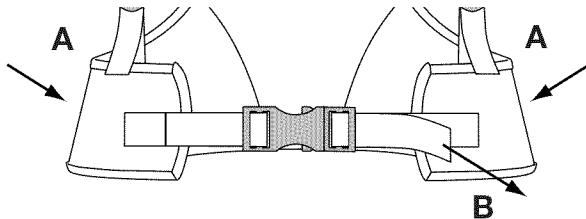
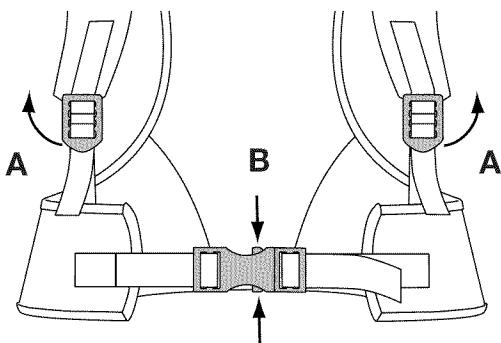

Fig. 18
Fig. 19
NOTE: Make sure the weight of the unit is supported on the hips by the waist support (Fig. 18, A).
3. If weight is not on hips, loosen the shoulder supports (Fig. 19, A) and pull the waist support handle (Fig. 18, B) to tighten. Adjust until the unit's weight rests on the hips.
1. To loosen the shoulder supports, pull up on bottom tab of the shoulder support buckles (Fig. 19, A).
2. Squeeze the top and bottom of the waist support clips to release the waist support (Fig. 19, B).